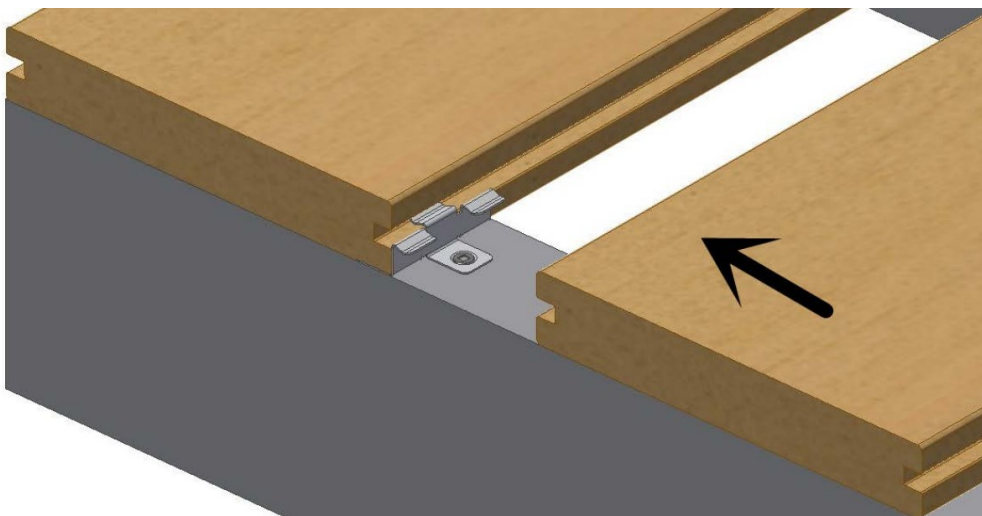

Figure 10
3) Push the board into position and repeat the process (Figure 10)